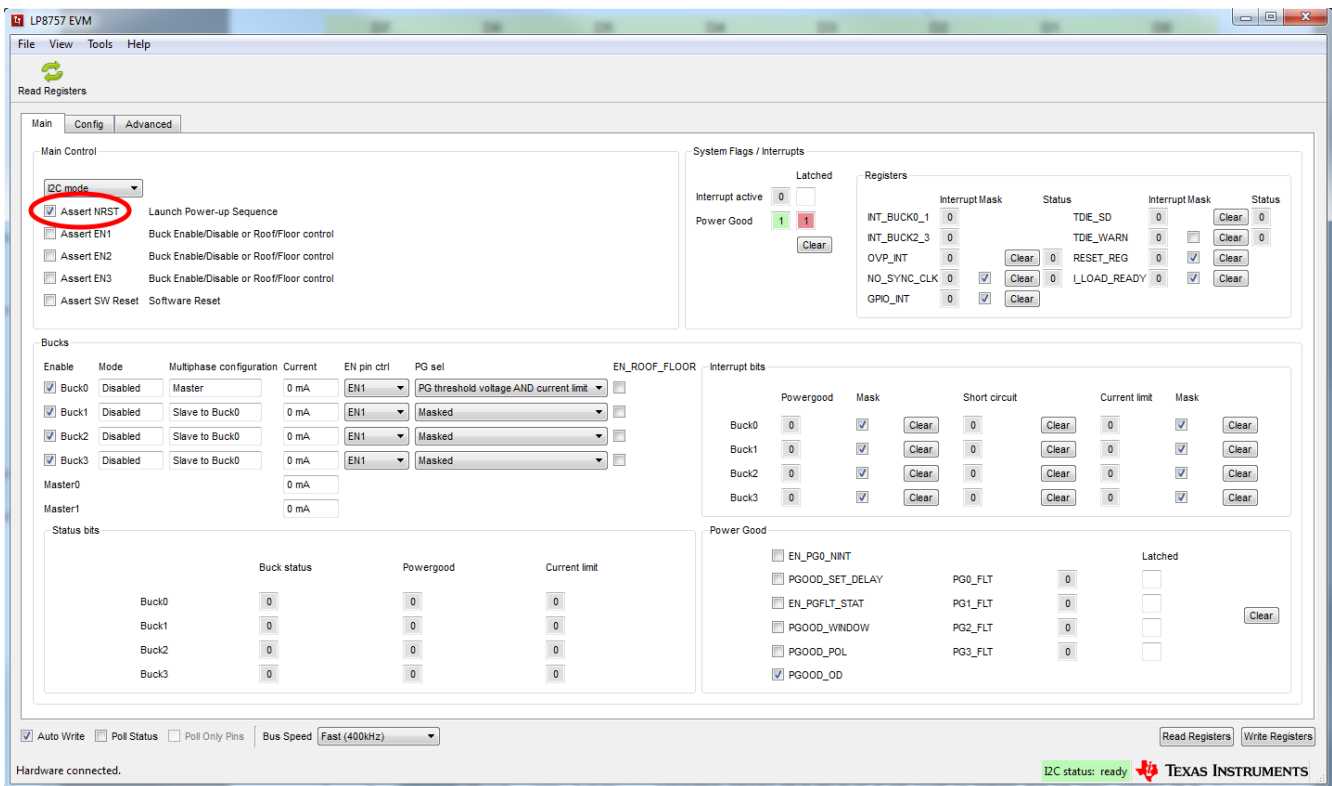

Figure 3-6. Assert nRST
1. On Evaluation software GUI, click on Assert NRST (see Figure 3-6).